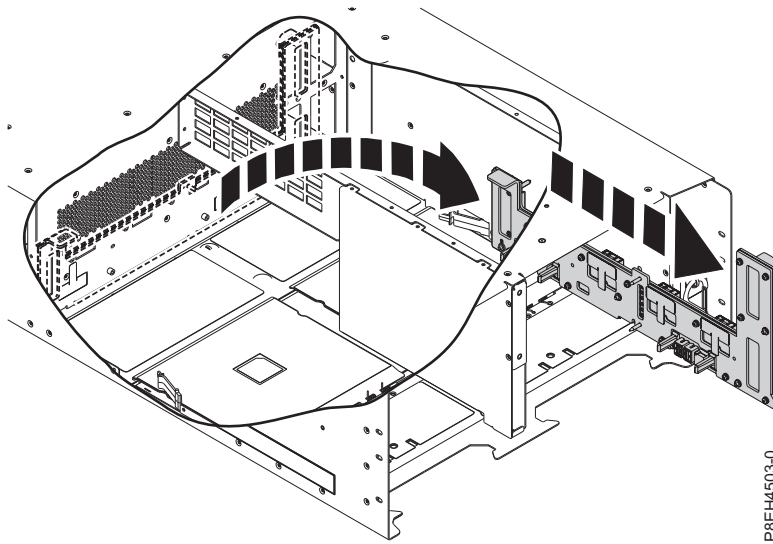

Figure 14. Removing the midplane
20. Grasp the midplane and pull it out through the empty right I/O module bay. See Figure 14.